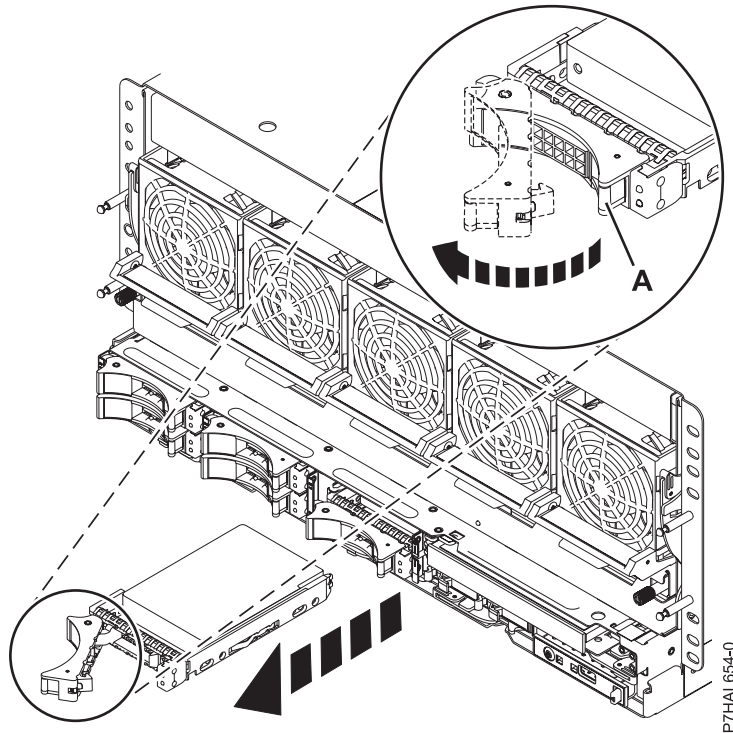

Figure 33. Removing a disk drive from the system
1. On the system, unlock the drive handle by squeezing it and pulling it out toward you, as shown in Figure 33 on page 49.